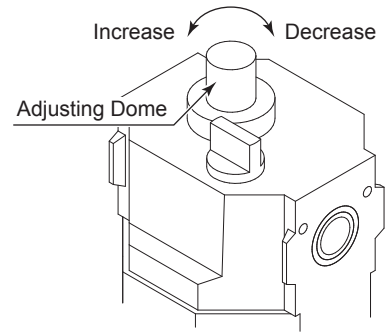

Fig. 5
(3) Adjustment of oil drip rate (Fig 5)
- ① Set the air pressure to the motors recommended maximum air pressure.
- ② Adjust the oil drip rate to the recommended volume which is 1 to 3 drops/min.